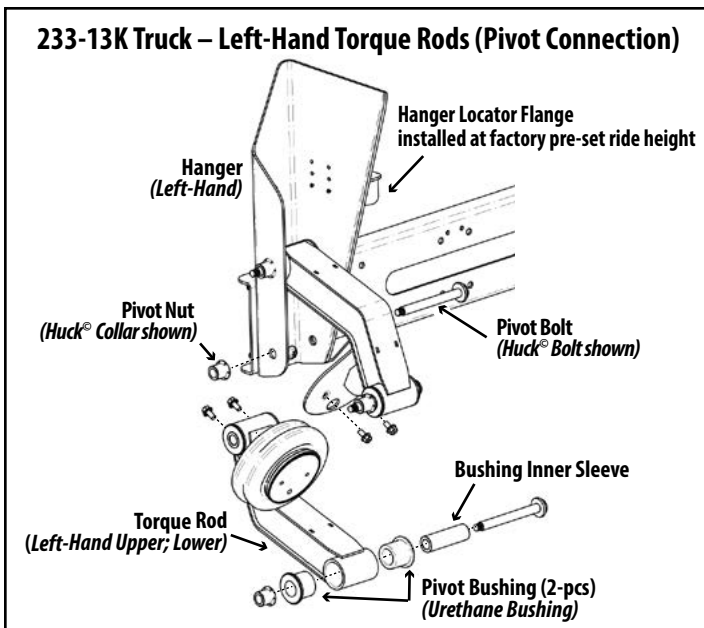

Figure 7.
1. Replace all pivot connections at the same time. Remove pivot hardware by cutting/grinding away the Huck® Collar. Discard hardware (Figure 7).